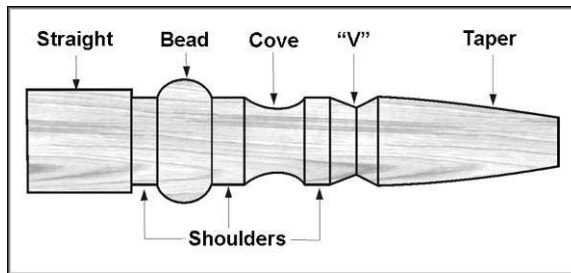

Figure 30
Figure 30 shows the basic profile shapes in spindle turning.
2. Extremely hard woods may require kerfs cut into the ends of the stock (Figure 30) using a band saw, so the wood will accept the spur center and the live center.